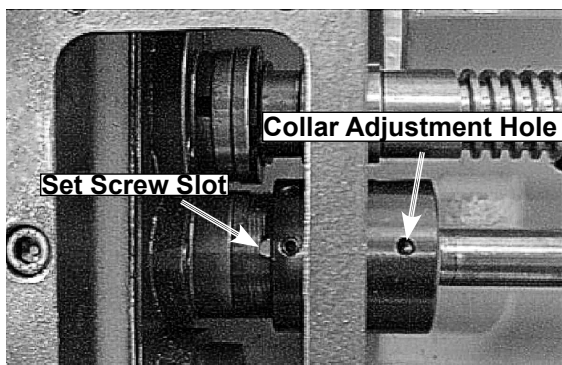

Figure 90. Feed clutch set screw alignment.
4. Insert the hex wrench into the collar adjustment hole shown in Figure 90, and use the wrench to rotate the clutch collar.